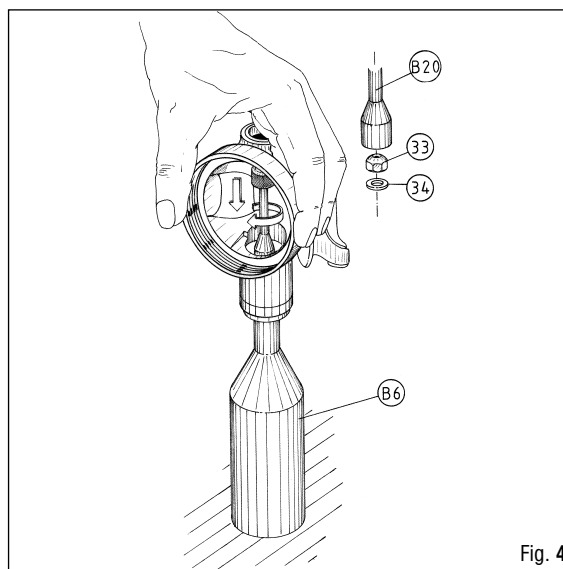

Fig. 4
- A.3** Fit the washer (34) on the part of the poppet stem that protrudes inside the 2nd stage case and lock down the adjusting nut (33) through a few turns, using the special wrench (B-20) (Fig. 4).